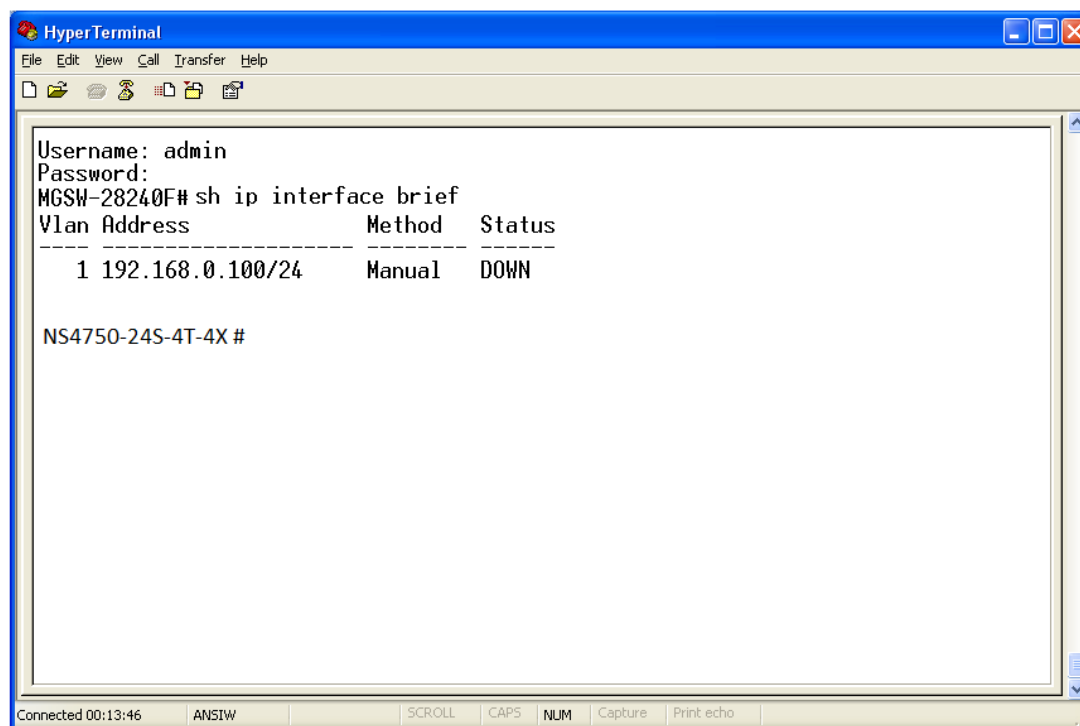

Figure 6-1: Show IP Information Screen
2. The screen displays the current IP address, Subnet Mask and Gateway as shown in Figure 6-1.